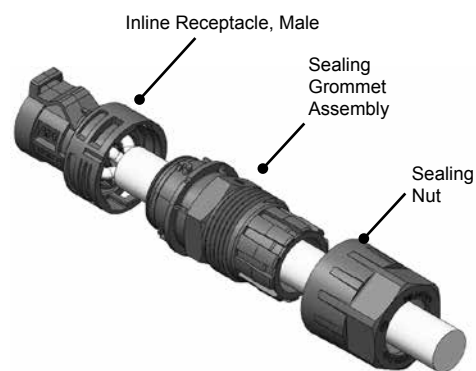

Figure 1
- Slide approximately 1.6" (40 mm) of wires through wire protection nut and then through the sealing grommet side of the sealing grommet assembly. ( See figure 1)